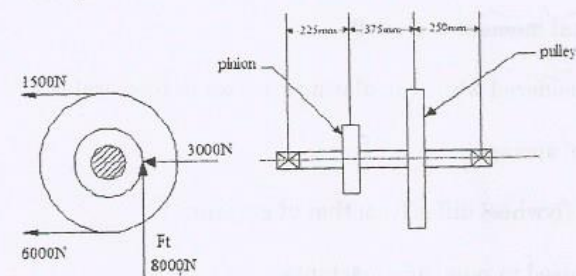

Fig. 13 (a)
- b) Design a bushed pin type of flexible coupling for connecting a motor and a pump shaft. The following data are provided : Power transmitted = 20 kW; Speed = 1000 rpm; Diameter of the motor and pump shafts = 50 mm; Allowable bearing pressure in the rubber bush 0.3 MPa. (13)
13. a) A 600 mm diameter pulley driven by a horizontal belt transmits power through a solid shaft to a 262 mm diameter pinion which drives a matting gear. The pulley weighs 1200 N to provide some flywheel effect. The arrangement of elements, the belt tensions and components of the gear reactions on the pinion are as indicated in Figure 13(a). Determine the necessary shaft diameter using a suitable value for commercial shafting and shock fatigue factor of $K_b = 2$ and $K_t = 1.5$. (13)